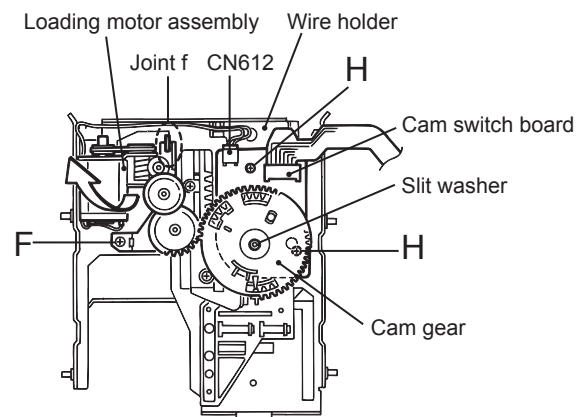

Fig.12
2.4.7.1 Removing the loading motor (See Fig.12 and 13)
2.4.7.2 Removing the cam gear and the cam switch board (See Fig.12)